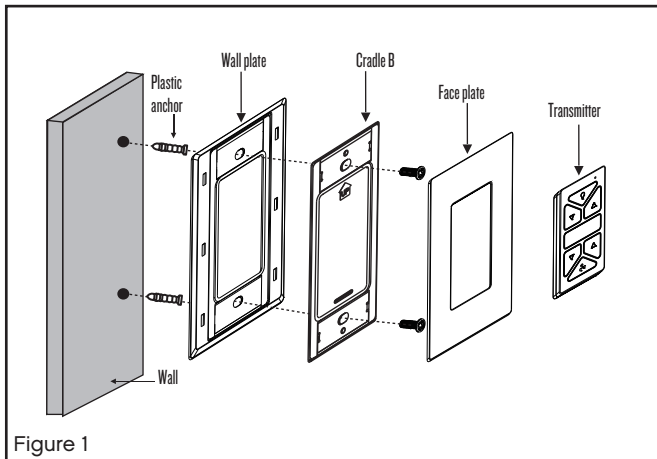

Figure 1
- 1 Select a desired location. Use the wall plate to mark the location of the mounting holes. Plastic wall anchors or mounting screws are needed for this application. (Fig. 1)